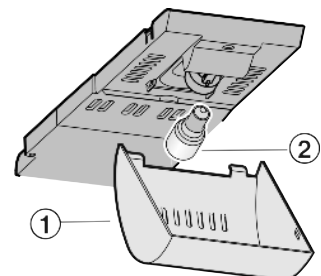

Fig. 12
- ▶ Take holder of the cover *Fig. 12 (1)* at the front and unhook it at the back.
- ▶ Change the bulb *Fig. 12 (2)*.
- ▶ Put the cover *Fig. 12 (1)* back in place.